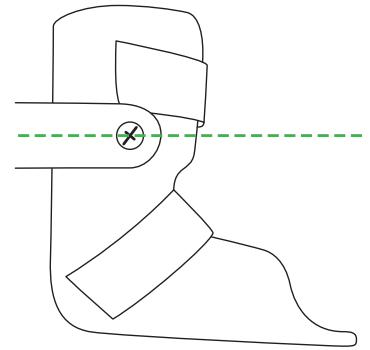

Figure 1: Attach above malleoli
1. Custom polymer AFOs should be created using standard evaluation, impression taking, and fitting practices. Care should be taken to ensure that wall thickness is adequate for fixating to the AFO sections. Reinforcement materials may be used, but should not extend into the supramalleolar area (see fig. 1). An external copolymer frame and inner flexible polyethylene bootie may be used for maximum suspension, flexibility, and adjustability. A heel counter should be placed in the AFOs proximal to the calcaneus to prevent the rearfoot from migrating.